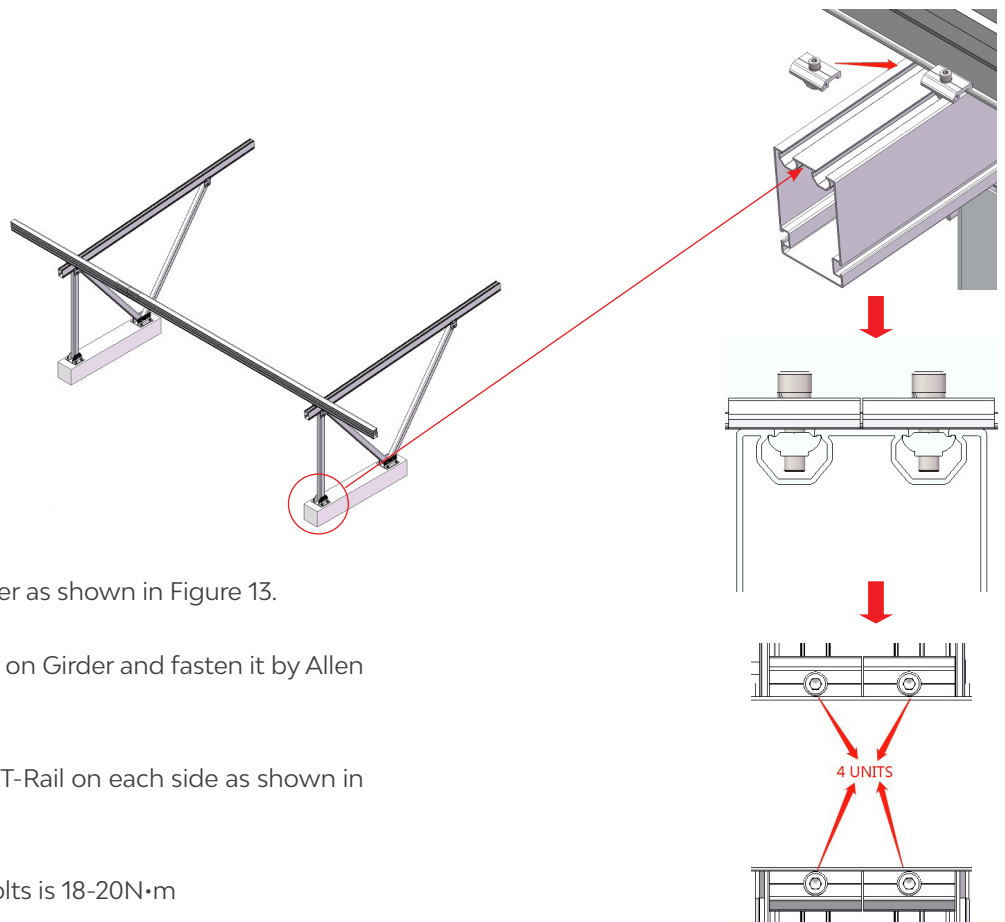

Figure 13
5.2.2 Place one T-Rail 168 on Girder as shown in Figure 13.
Note: Apply two Rail Clamps for T-Rail on each side as shown in Figure 13